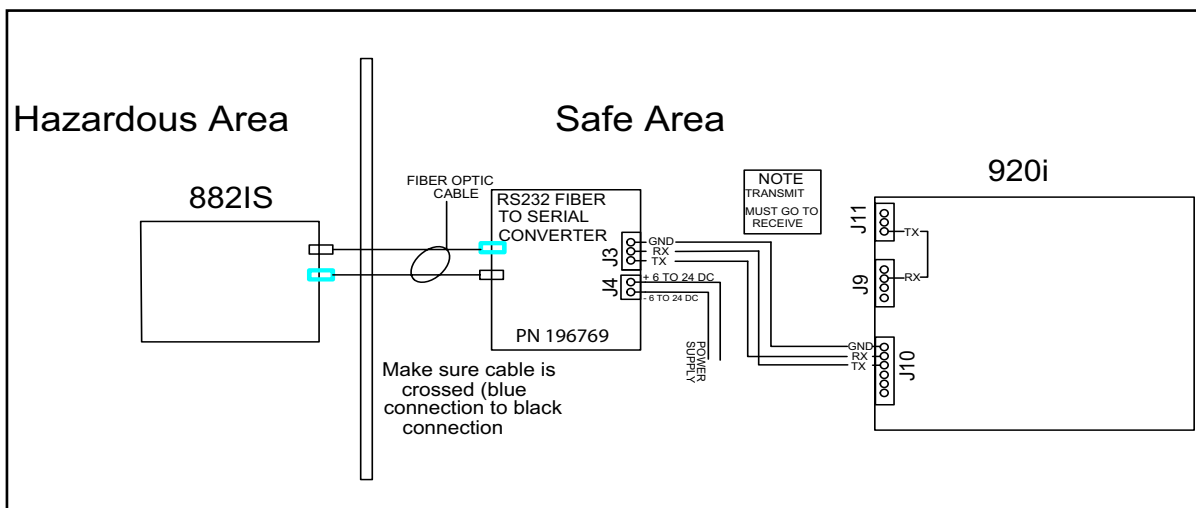

Figure 8-1. 882IS/882IS Plus Remote Setpoints RS-232 Hardware Model Example
The 882IS/882IS Plus indicator is capable of controlling setpoint batching on a remote Rice Lake Weighing Systems 920i weight indicator. This capability enables an industrial batching engine to run in a safe environment, controlled by the 882IS/882IS Plus through a fiber-optic cable from a hazardous area. See Figure 8-1 to see examples of how this is set up. With a special iRite program, the 920i is capable of running as a serial scale with batching setpoints controlled by the 882IS/882IS Plus indicator.
- RS-232 fiber to serial converter box (PN 196769) (Figure 8-1 on page 70)
1. Wire up connections from the RS-232 Fiber Adapter to the 920i indicator (Figure 8-1 on page 70) for connections.